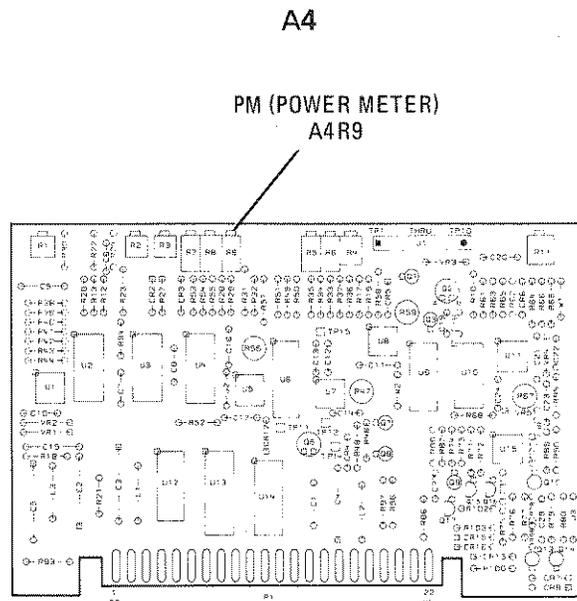

Figure 5-34. Power Meter Leveling Adjustment Location
4. Increase the 83595A power level until the 432A Power Meter reaches full scale deflection (83595A RF output equals approximately $+6$ dBm). Adjust A4R9 (PM) until the 436A Power Meter indication is equal to the 83595A POWER display minus the Power Splitter insertion loss noted in step 2 (approximately 6 dB). Refer to Figure 5-34 for the adjustment location.
5. Alternately set the 83595A POWER to -2 dBm (and adjust the 83595A **EXT CAL** control) then set the 83595A POWER to $+6$ dBm (and adjust A4R9 (PM) control) to obtain the best compromise where further adjustment of each is unnecessary.